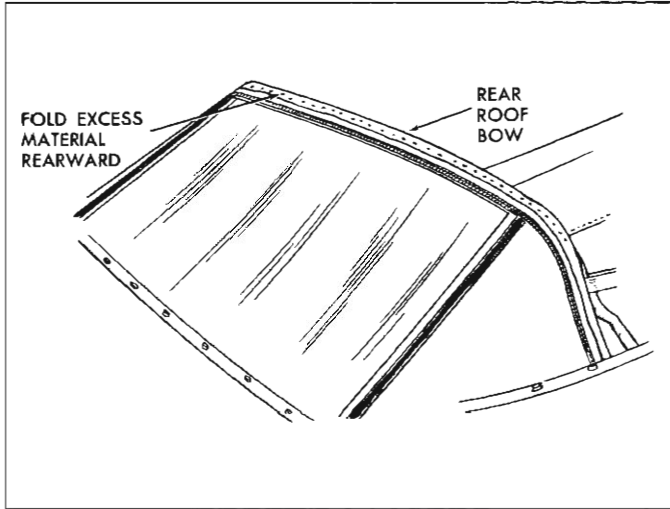

Fig. 66—Trimming Material at Rear Bow
17. Working from body center progressively outboard to right and left sides, tack back curtain upper valance to rear bow. Make sure all fullness has been drawn from back curtain assembly. Fold excess back curtain upper valance material rearward and tack to rear bow (fig. 66).